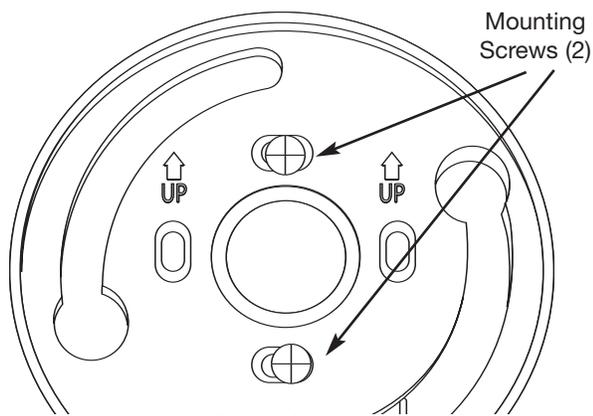

Figure 3
- Tapped holes on the door should be at 12:00 and 6:00 locations, see *Figure 3*.